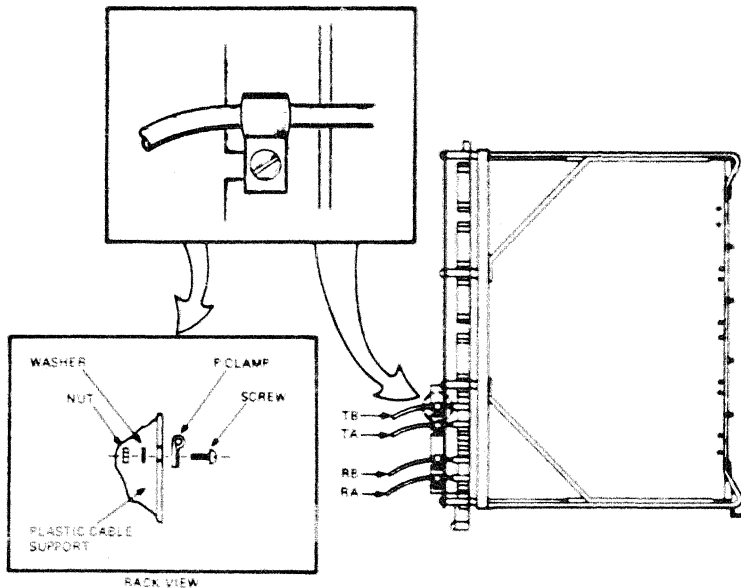

Figure 2-13 CI780 Backplane Cable Assembly Connection Details
4. Secure the P-clamp on each cable to the plastic cable support with a 10 × 32 screw, washer, and nut (Figure 2-13).